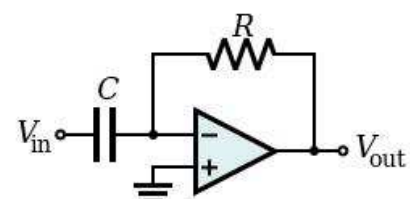

Figure 15
- 1- Construct the circuit shown in Figure 15 by using  $R=10\text{K}\Omega$  and  $C=10\mu\text{F}$ .